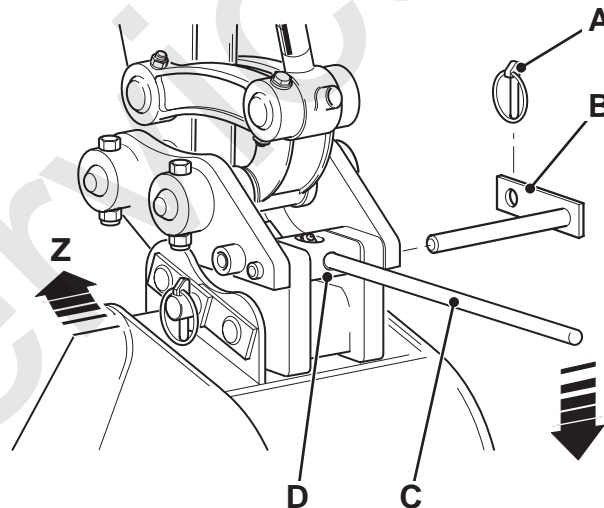

Fig 108.
- 4 Apply a downward pressure on the bar to release the buckets' rear pivot pin from the latch hook, → Fig 108. \(□ 272\) at Z. Remove the tommy bar from the Quickhitch.